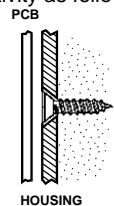

Figure 2:
- The plastic housing can be screw mounted to doors and window frames or can be affixed directly onto glass windows using a strong double-sided non-cushioned adhesive tape. Mount the back cover and replace the PCB. Use two ISO 7050 (ST3.5 x 22) or similar countersunk screws so that the screw head will not touch the PCB – see Figure 2.